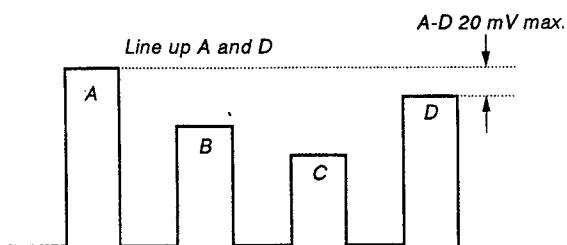

Fig. 20
- 2) Adjust **[PHASE NTSC 443 ACC OFF]** in the same manner as in 7-5). above. (Fig. 20)